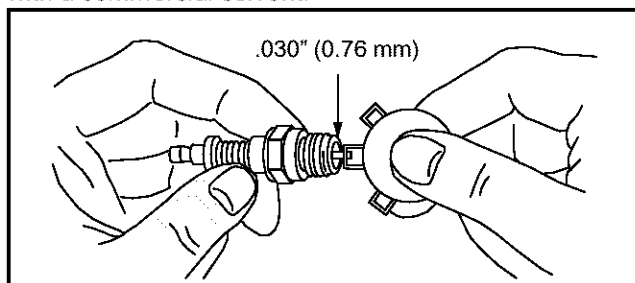

Figure 15
- Replace the spark plug if electrodes are pitted, burned, or the porcelain is cracked. See Figure 15.
- Clean the spark plug and reset the gap to .030" at least once a season or every 100 hours of operation. See Figure 15. Replace if necessary. Refer to parts list section for part number.